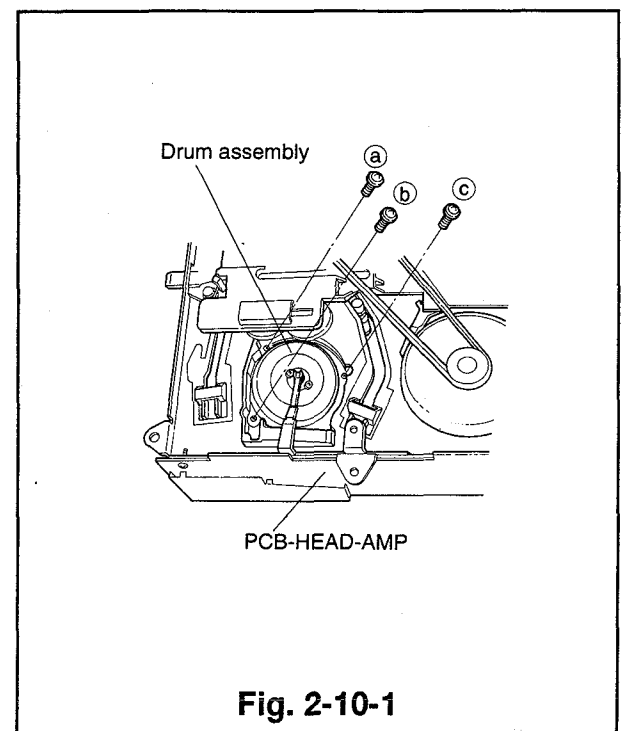

Fig. 2-10-1
- ① Remove the cassette housing. (Refer to Para. 2-1 for the removal method.)
- ② Remove the PCB-HEAD-AMP. (Refer to Para. 2-8 for the removal method.)
- ③ Unscrew the three screws (a, b and c) on the reverse side of the deck and remove the drum assembly. (Refer to Fig. 2-10-1.)
- ④ Slowly raise the drum assembly upward, take care not to touch other parts around it. (Do not touch the tape running surface of the drum with your hand.)
- ① Carefully place the new drum assembly on the main plate of the deck, take care not to touch other parts.
- ② Holding the drum assembly, reverse the deck and secure the drum assembly with the three screws (a, b and c). (Tighten the screws in the order a→b→c and finally tighten again a.) (Refer to Fig. 2-10-1.)
- ③ Install the PCB-HEAD-AMP. (Refer to Para. 2-8 for the installation method.)
- ④ Install the cassette housing. (Refer to Para. 2-1 for the installation method.)
- ④ Slightly raise the drum assembly in the opposite direction of the pins. Remove the pins of the drum assembly and of the rotary transformer from the PCB-HEAD-AMP. Slowly remove the drum assembly, take care not to touch other parts around it.
- ① Carefully place the drum assembly on the main plate, take care not to touch the other parts around it. The pins of the drum assembly and the rotary transformer must enter the holes of the PCB-HEAD-AMP.
- ② Secure the drum assembly with the three screws (a, b and c) on the reverse side of the deck. (Tighten the screws in the order a→b→c and finally tighten a again.) (Refer to Fig. 2-10-1.)